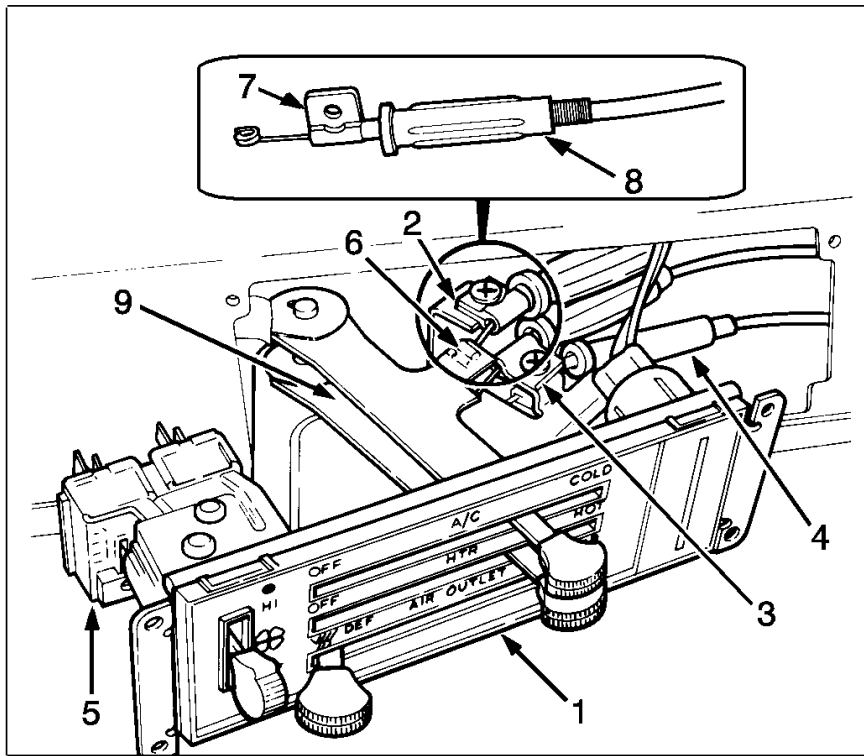

Figure 13 Control Assembly and Cables
1. Remove four mounting screws from the control assembly and pull the assembly out of the instrument panel (Figure 13).
3. Adjust each lever by turning its cable adjuster (Figure 13) until the lever is clear of (not touching) the end of its slot. Move each lever to the opposite end of its slot. Adjust again until each lever is the same distance from each end of its slot.